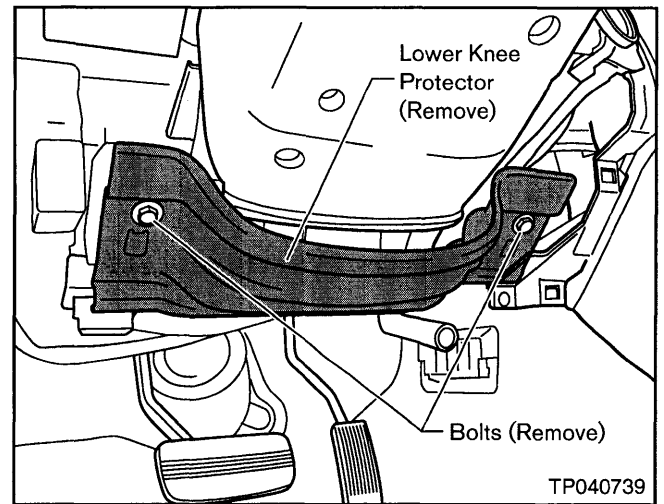

Figure 5
2. Remove two bolts and remove the Lower Knee Protector (see Figure 5).